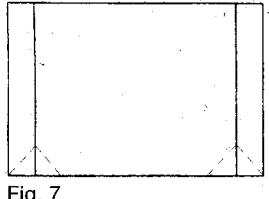

Fig. 7
- d) Adjust the LOWER CORNER CORRECTION to obtain condition as in (fig. 7).